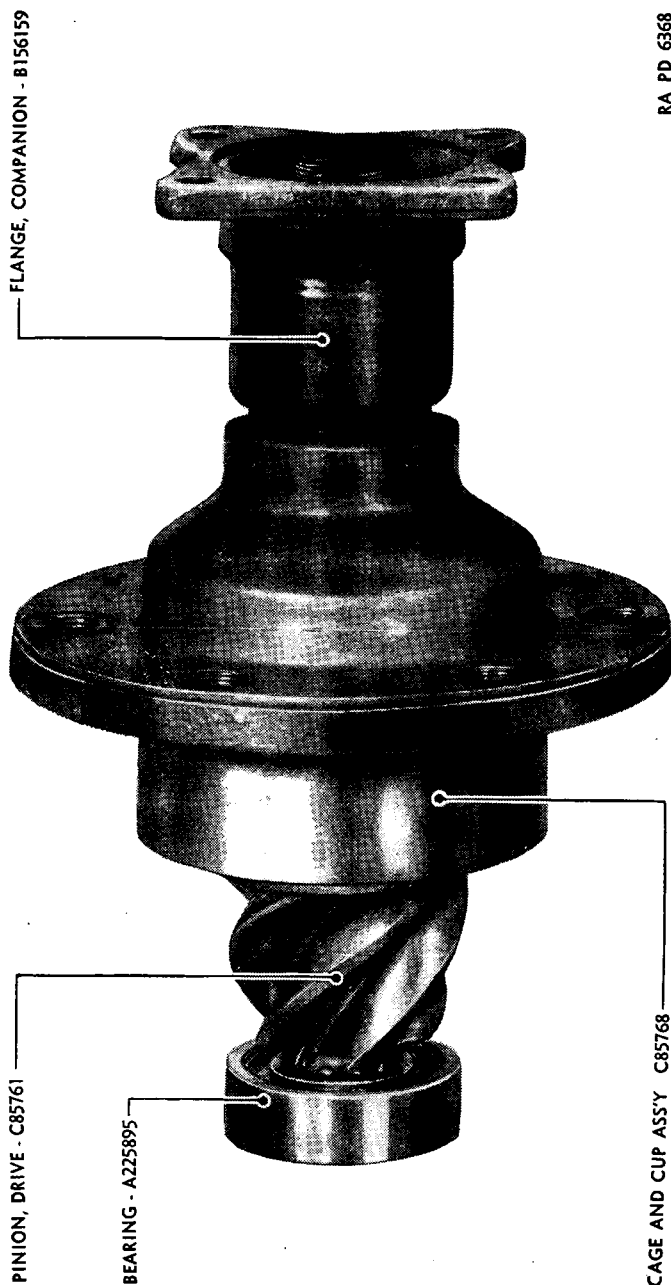

FIGURE 21.—Front axle drive pinion assembly.
(1) Disconnect propeller shaft— $\frac{5}{8}$ -inch box wrench,  $\frac{9}{16}$ -inch open end wrench. Remove four  $\frac{7}{16}$ -inch bolts (A214369), nuts (BBBX1D), and lock washers (BECX1L), and disconnect front propeller shaft at drive pinion companion flange.
(2) Remove pinion shaft assembly— $\frac{3}{4}$ -inch socket wrench. Remove  $\frac{9}{16}$ -inch cap screws (A145900) and lock washers (BECX1N) holding pinion outer seal cover (C85763) and bearing cage to housing, and pull out pinion shaft assembly (fig. 21).
(3) Remove shaft nut—pliers or cotter pin puller,  $1\frac{1}{2}$ -inch socket wrench. Pull out pinion shaft cotter pin (BFAX1DL) and unscrew nut (A214932).
(4) Remove companion flange—press. Press off front axle companion flange (B156159, fig. 21) and key (A167690), and remove outer bearing cage cork (A174608).
(5) Remove bearing nuts and washers— $1\frac{1}{4}$ -inch open end wrench. Take off drive pinion outer bearing nut lock (A225902), lock ring (A159568), adjusting nut (A225901), and adjusting nut washer (A225903).